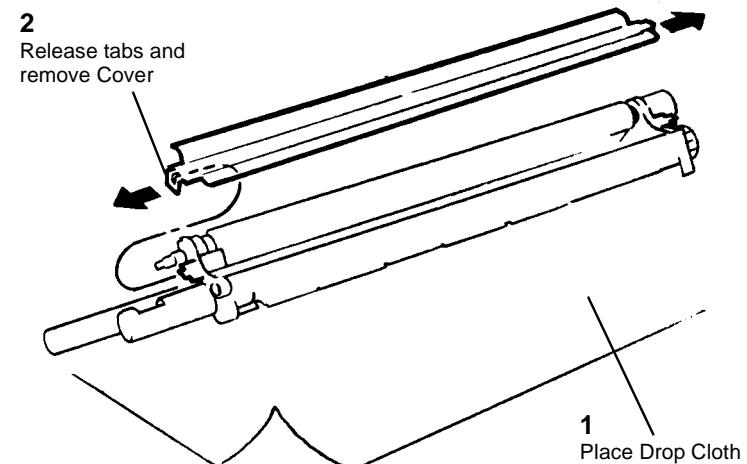

Figure 2 Removing Housing Cover
- b. Remove Housing Cover (Figure 2).